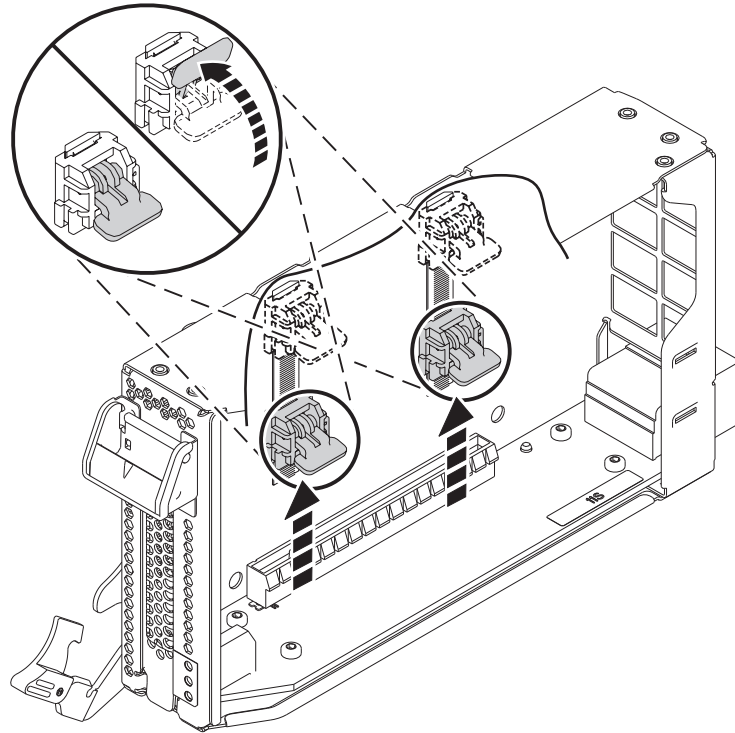

Figure 40. Unlocking the cassette ratchets
- a. Unlock both the cassette ratchets by rotating them, as shown in Figure 40 on page 39.
- b. Push up the cassette ratchets to the top edge of the cassette, as shown in Figure 40 on page 39.